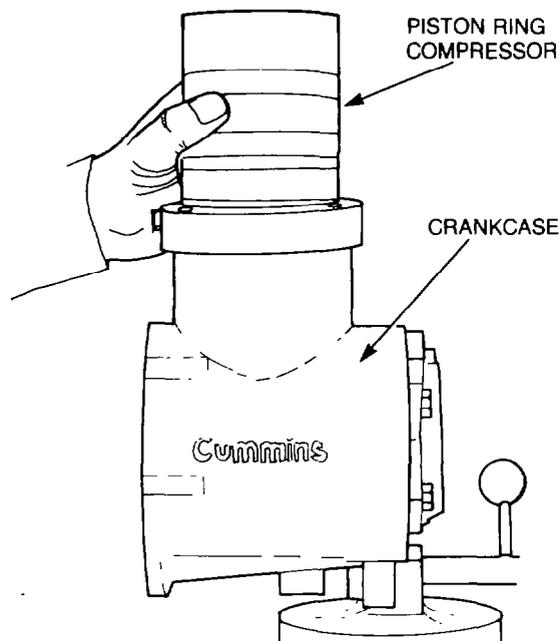

Figure 250 — Piston and Connecting Rod — Installation
- e. Install the piston and connecting rod into the cylinder bore, using a suitable soft-faced tool to push the piston from the ring compressor (see Fig. 250).